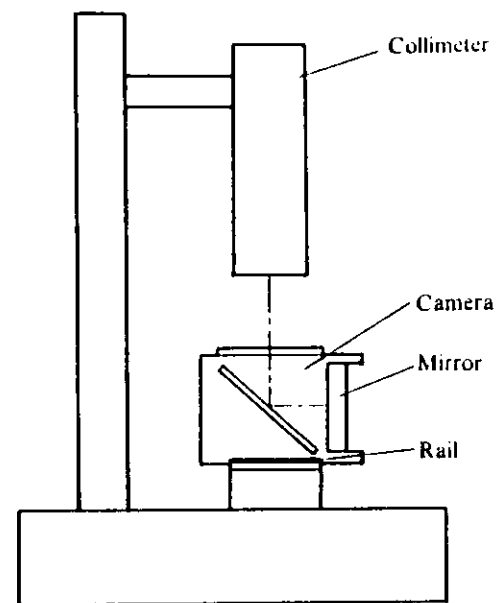

Fig. 17
- 1) For a 45° mirror adjustment, use a collimeter, and set the camera as shown in Fig. 17.